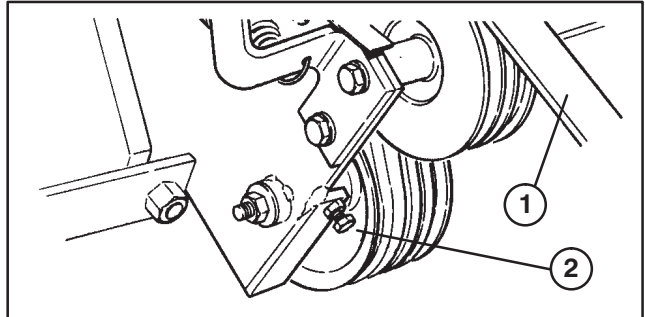

Figure 33
3. If coring head drive belt (Fig. 33) does not properly engage or disengage when entering or exiting the ground, check belt adjustment. Coring head mechanism should begin rotating 1" before tines contact turf.
C. Loosen adjusting screw jam nut (Fig. 33) on top of idler pulley bracket.
D. With engine running at idle speed, rotate adjusting screw (Fig. 33) until coring head just barely starts to creep or stops. Then tighten adjusting screw one more turn. Tighten jam nut.